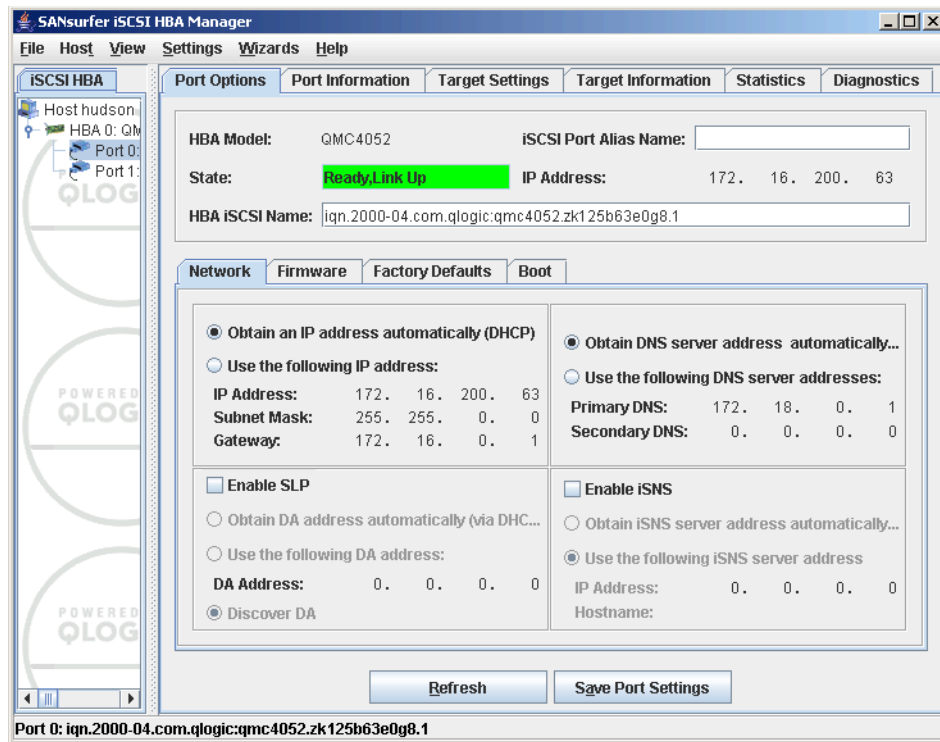

Figure 21-40 SANsurfer - Assigned DHCP address to an iSCSI port
- After the configuration refresh is done, the IP address assigned by the DHCP server is visible. See Figure 21-40.